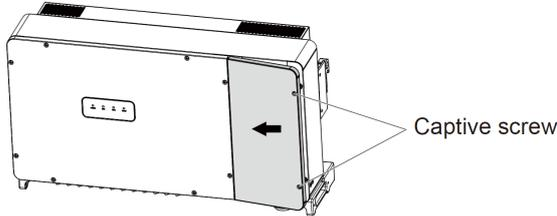

Fig. 4-4 Open upper cover of combiner box
- Internal Grounding: The inverter has an internal grounding pole located on the right side of the AC busbar, as shown in Fig. 4-4 on the left